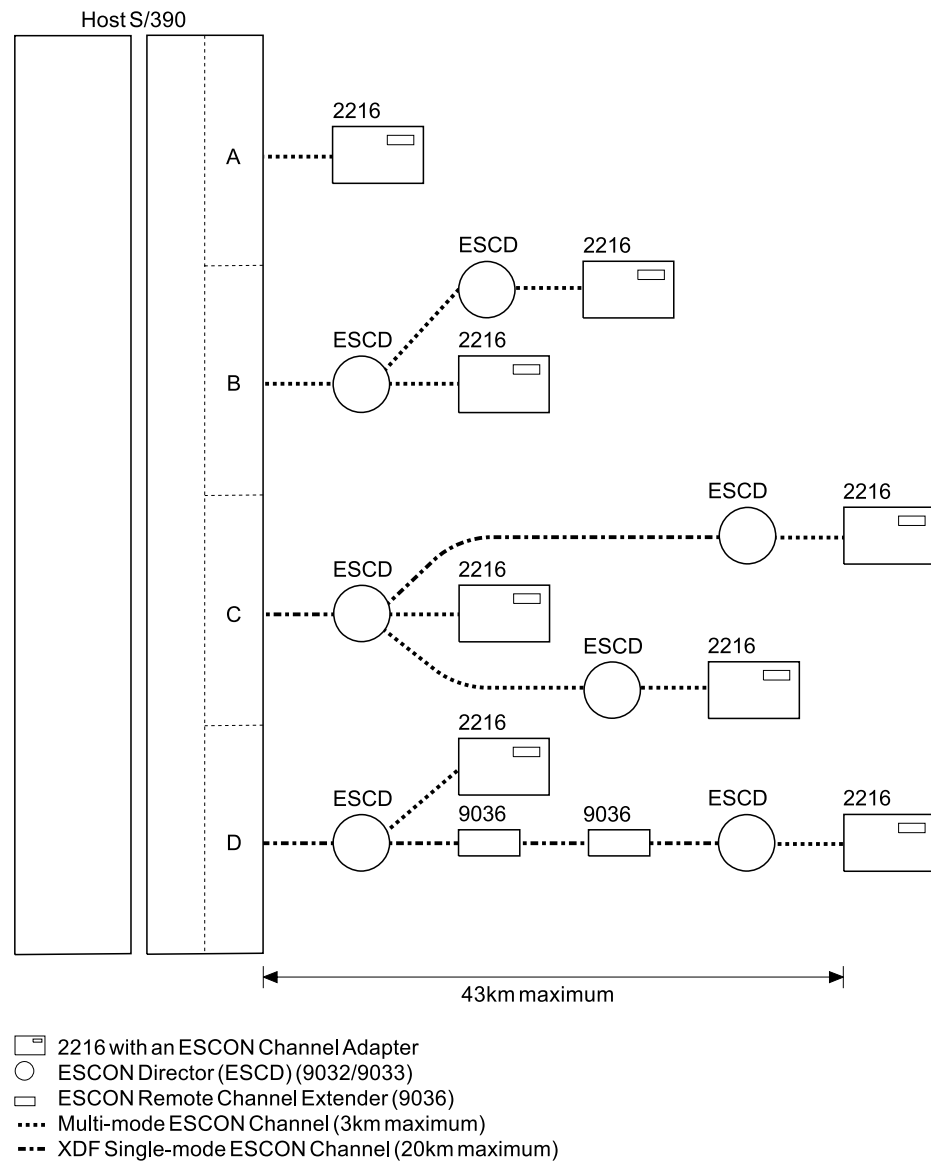

Figure 1-3. Single System ESCON Connection Example
See Figure 1-3 on page 1-9.
**Direct Attachment Between a S/390 Host and a 2216:** In Figure 1-3, connection A shows a 2216 directly attached to a S/390 host channel. The separation of the host and the 2216 can be up to 3 km (1.86 mi).